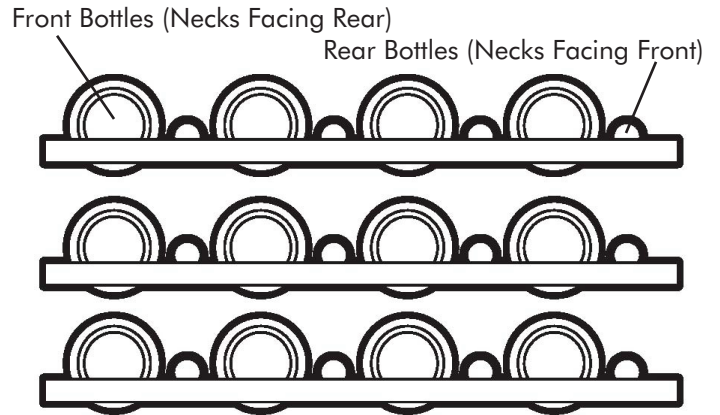

Figure 3
The six (6) roll-out shelves each hold eight (8) bottles. See Figure 3 for typical wine bottle spacing. Tall bottles should not be loaded on the bottom rack because they may prevent the door from closing.